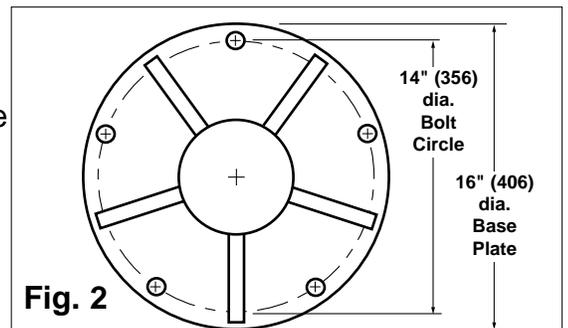

**Fig. 1**
1. Become thoroughly familiar with general arrangement and terms. Fig 1.